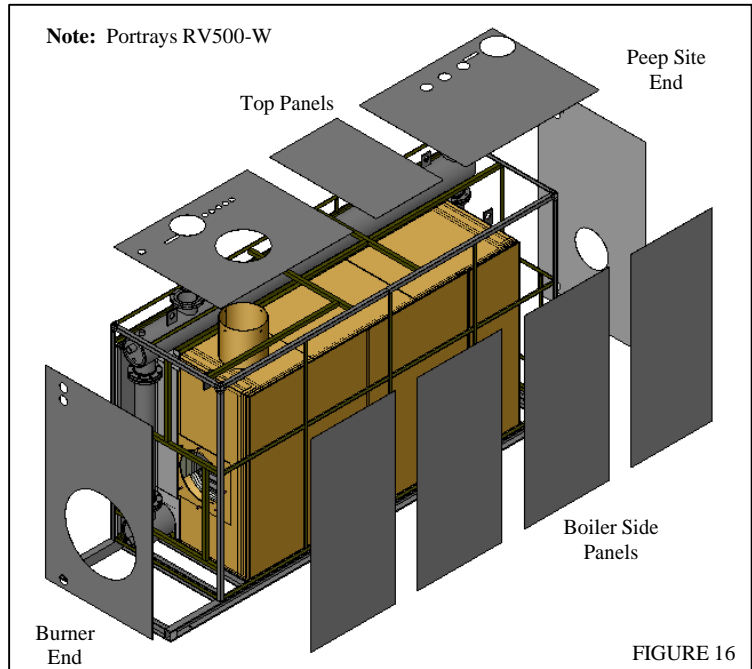

FIGURE 16
5.4 Install jacket panels. See figure 16 and drawing B21237. **NOTE:** Panel configuration varies, depending on boiler type. Panel location is noted on the backside of panels. Primed side goes to the inside. Drill pilot holes with a #26 drill. Attach the panels to the angle iron frame with #8 x 1/2 long self-tapping sheet metal screws. Screws should be spaced about 8" apart. Be sure to measure and mark location to avoid missing framework with screw holes.